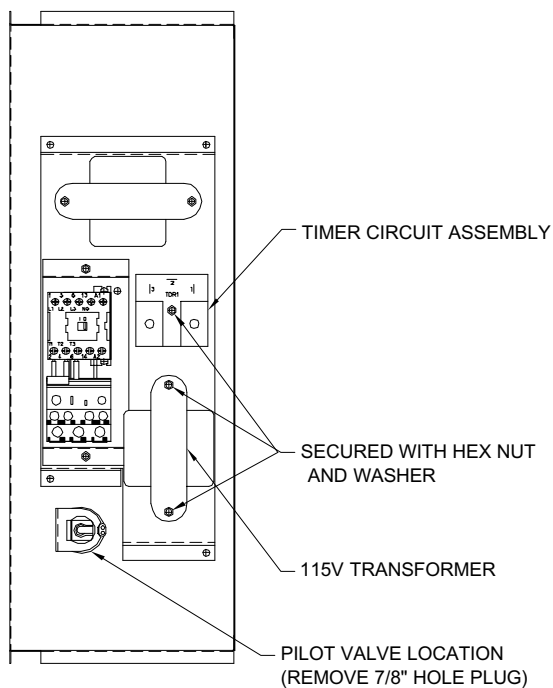

FIG. 3
4. Install timer circuit assembly onto the two threaded studs as shown in **FIG. 3**.